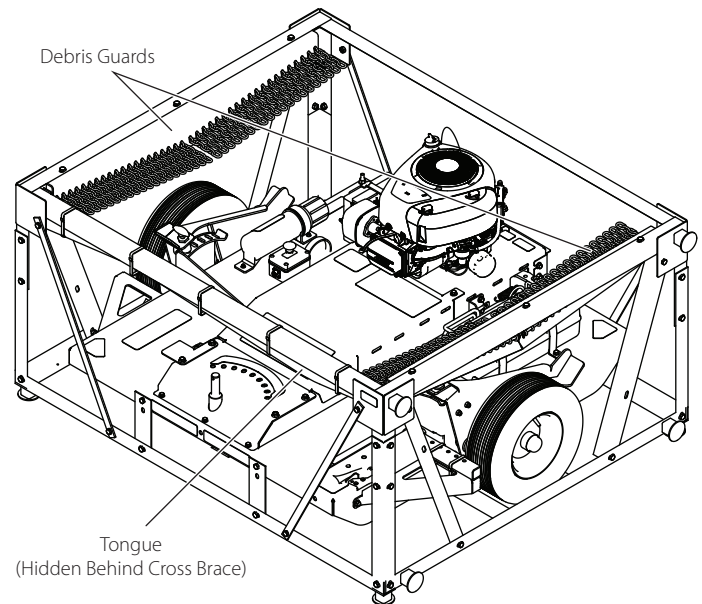

Figure 3
2. Remove debris guards and tongue from crate. *See Figure 3*